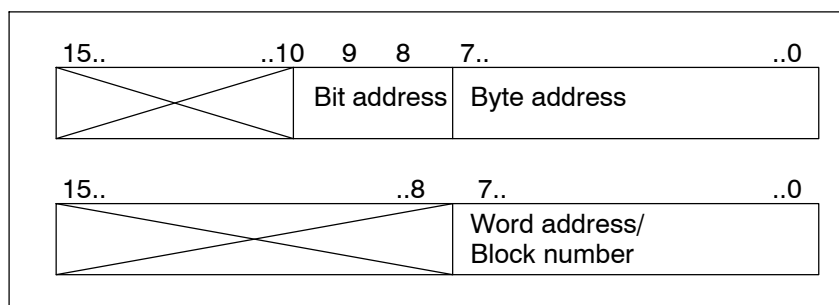

Figure 3-7 Structure Pointer S5
**Pointer Format in STEP 5** In S5 the pointer for the indicated processing operation occupies one word. The structure of the pointer is depicted in Figure 3-7: